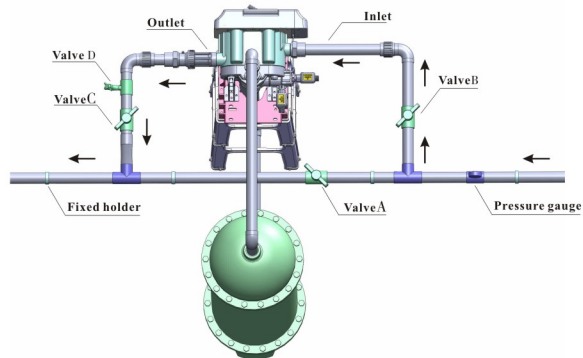

Figure 1-4
③ Pipeline connection
- As Figure 1-4 shows, install a pressure gauge in water inlet.